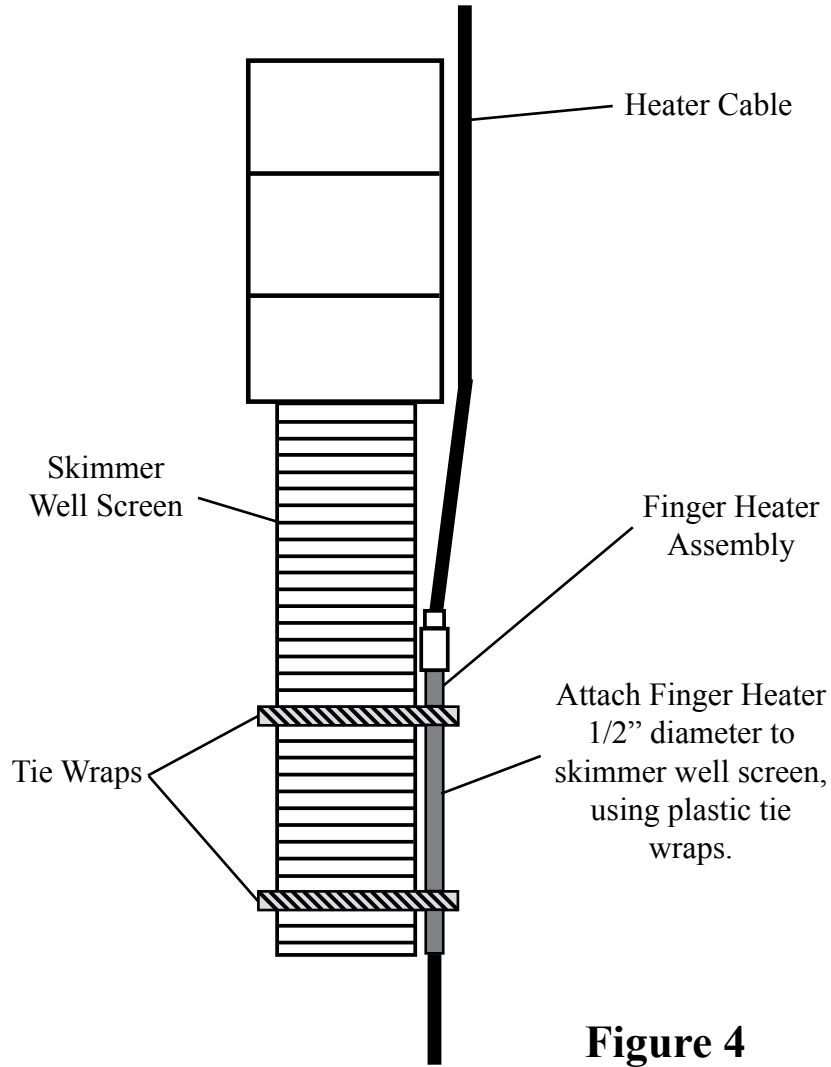

Figure 4
STEP 10. Install the 3/8” OD power cable from finger heater through the inside of the well cap, through the fitting labelled “H”. Slide about 5 feet of power cable through the well cap. Attach the finger heater assembly to the skimmer well screen (Figure 4).